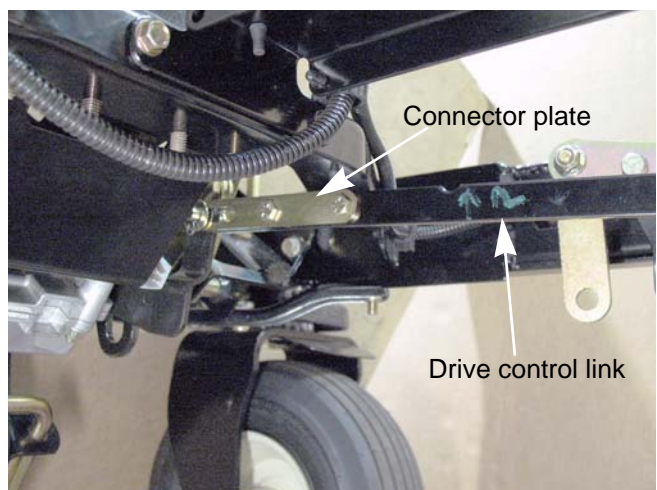

Figure 6.14
10. Disconnect both of the drive control links by removing the nuts and bolts that attach the connector plates to the drive control link using a pair of 7/16" wrenches. See Figure 6.14.